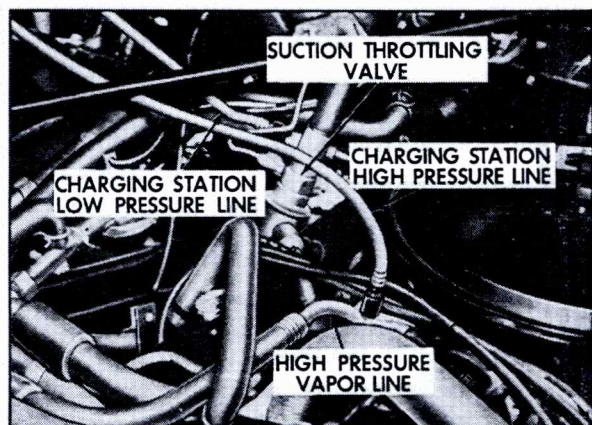

Fig. 1-29 Connecting Charging Station Lines
4. Connect charging station high pressure line to fitting on high pressure line and low pressure line to gage fitting on suction throttling valve, Fig. 1-29.